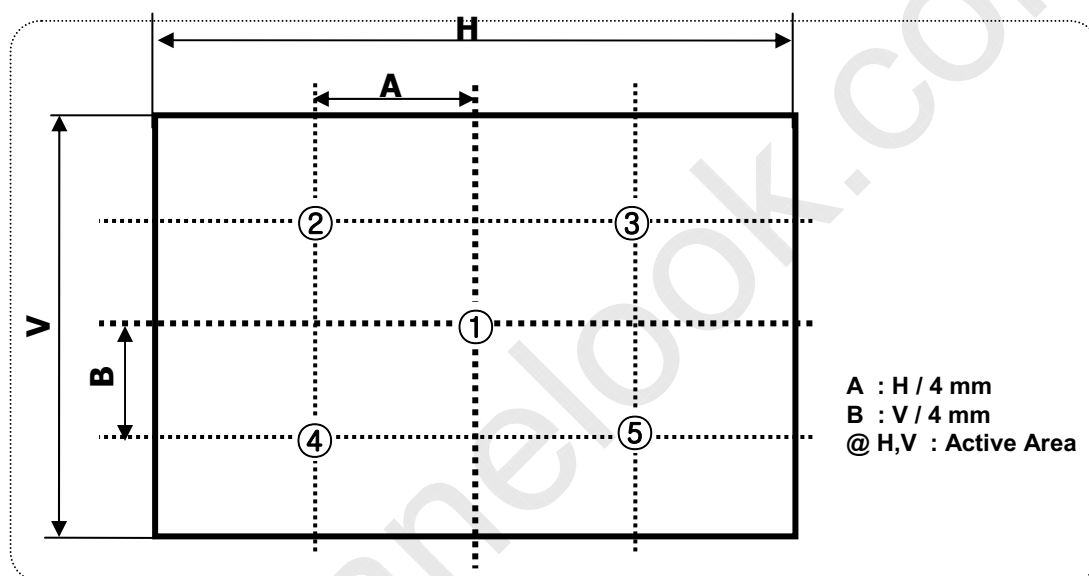

FIG.8 Measure Point for Luminance
2. Surface luminance(L_{WH}) is luminance value at Center 1 point(P1) across the LCD surface 50cm from the surface with all pixels displaying white. For more information see FIG.8 (By PR880)
For more information, see the FIG. 8.